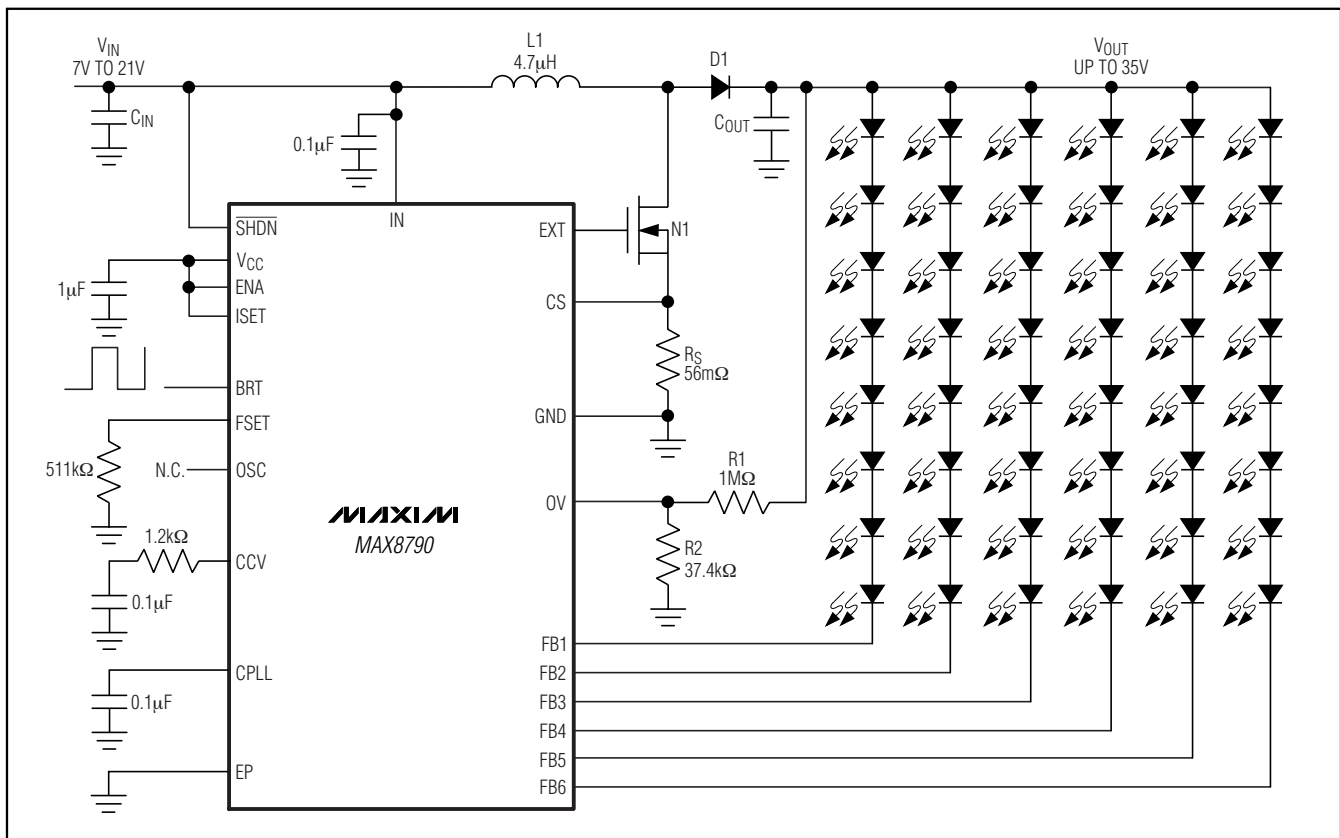

Figure 1. Typical Operating Circuit
To protect the step-up converter when the load is open, or the output voltage becomes excessive for any reason, the MAX8790 features a dedicated overvoltage feedback input (OV). The OV pin is connected to the center tap of a resistive voltage-divider from the high-voltage output (see Figure 1). When the MAX8790 is powered up, if none of the LED strings on FB1–FB6 are connected to the step-up converter output, the step-up converter regulates the output voltage to $V_{\text{OUT}} = 1.23V(1 + R1 / R2)$. When V_{OV} exceeds 1.23V, a comparator turns off N1. The step-up converter switch is reenabled after the output voltage drops below the protection threshold.